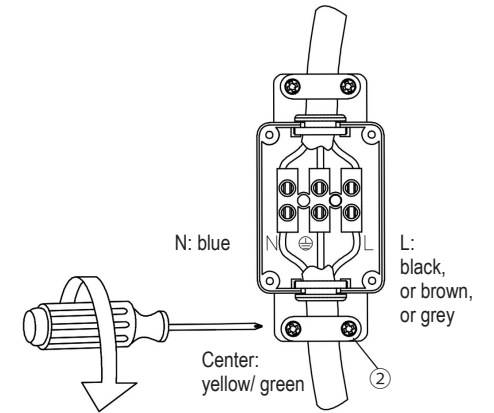

fig. 2
fig. 2: Prepare the cable in according to statutory regulations. Loosen the 4 screws of the junction box ①, open the box and connect the wires according the marks and seal the cable properly. Fasten the strain relief ② with the 2 screws.